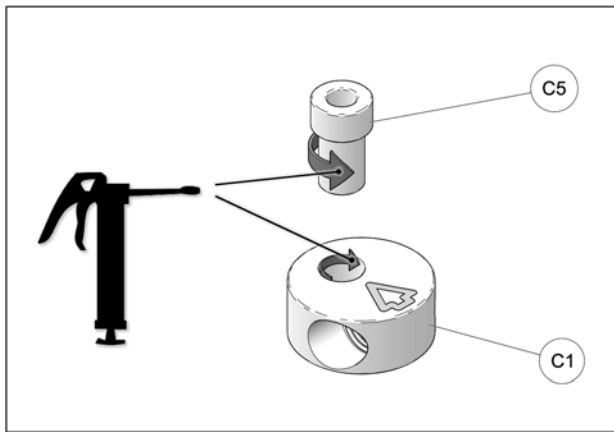

Fig. 26
16. Apply grease evenly all around step spacer bushing (C5) and in hole of aluminum disk (C1) when assembling these parts together. See Fig. 26